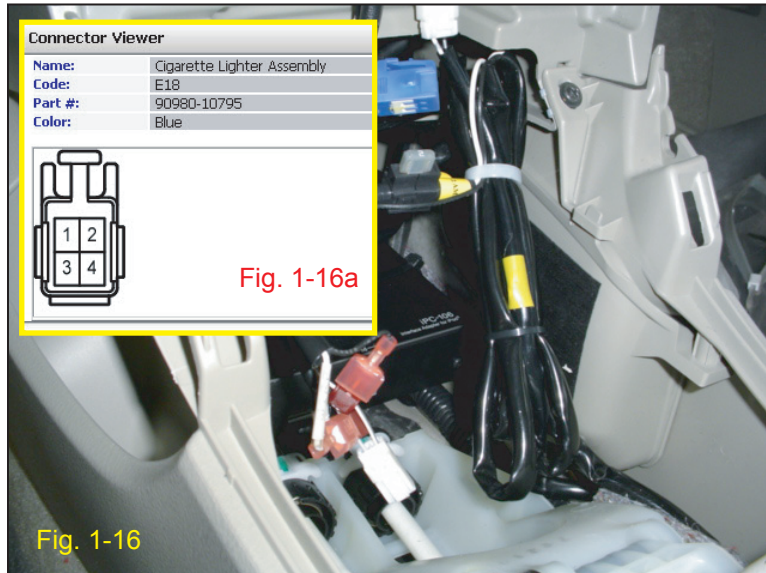

Fig. 1-16
2. Install T-taps in staggered fashion. (Fig. 1-16)